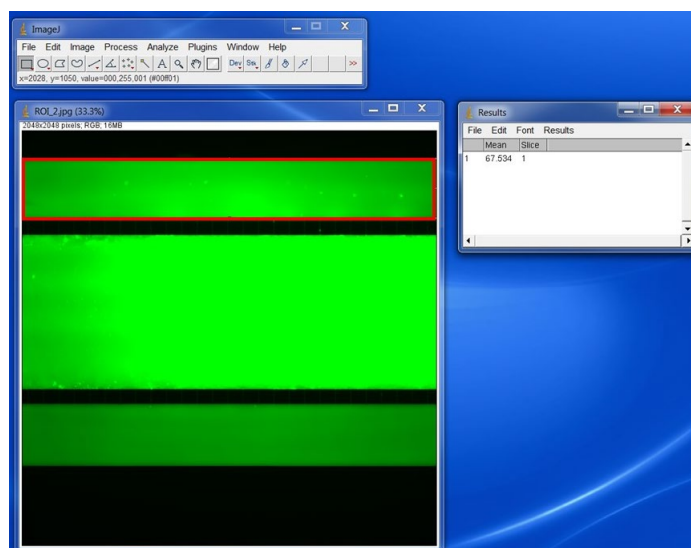

Figure 5. The mean gray value of the endothelial channel (red square) in ImageJ.
5. Deselect the epithelial channel, and select the one of the endothelial channels using the square selections tool (**Figure 5**).